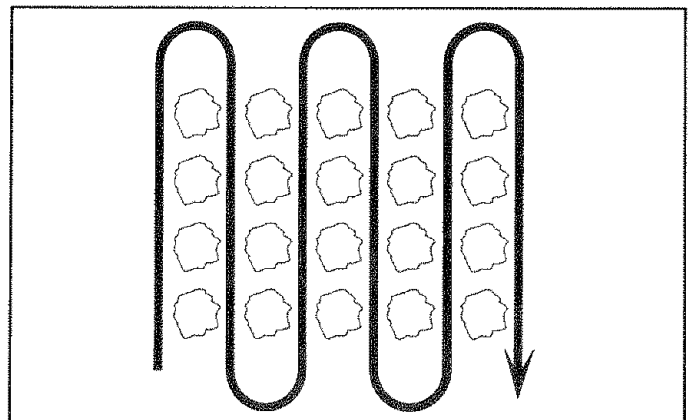

FIG. 17
- Cultivate up and down the rows at a speed which will allow tines to uproot weeds and leave the ground in rough condition, promoting no further growth of weeds and grass (See Fig. 17).